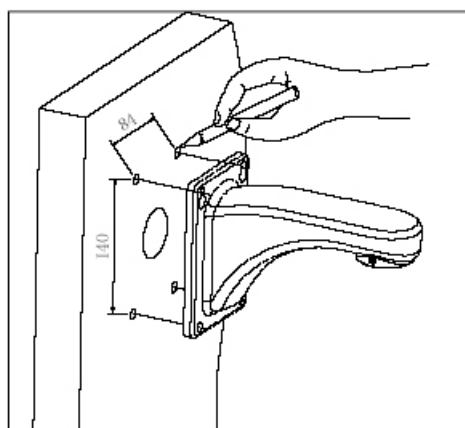

Fig. 2
a. As shown in fig 2, with the installation holes in the underside of the wall hanging bracket as pattern, draw punched locations and punch.